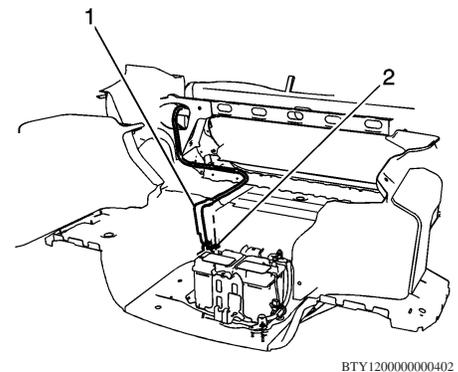

Fig. 2 Battery positive cable removal
7. Loosen battery positive cable terminal nut (2), Fig. 2.
9. Disconnect battery positive cable (1) from battery, Fig. 2.
6. Connect battery positive cable (1) to battery, Fig. 2. **Torque** battery cable nut to 49 inch lbs.